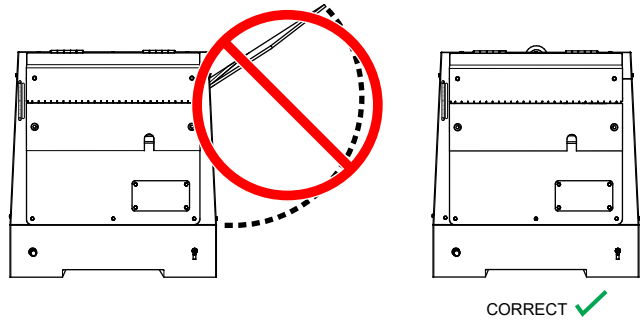

Figure 28. Generator Door
3. Make sure the **generator door** (Figure 28) is closed before operating the generator.